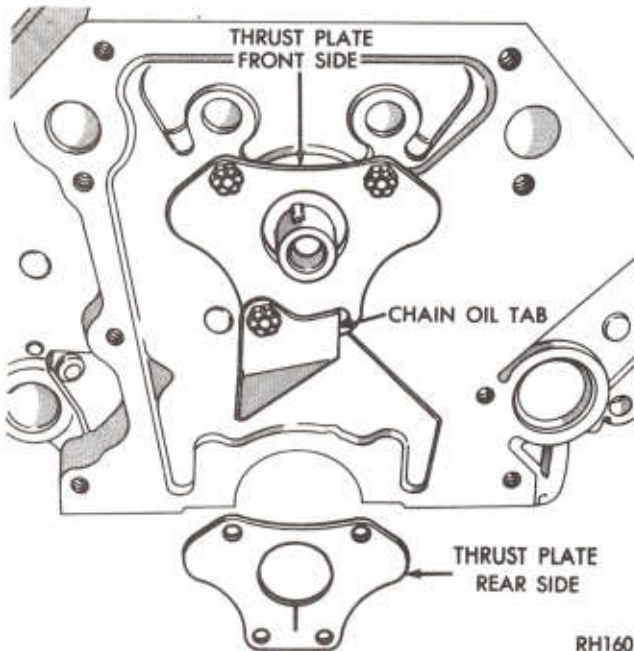
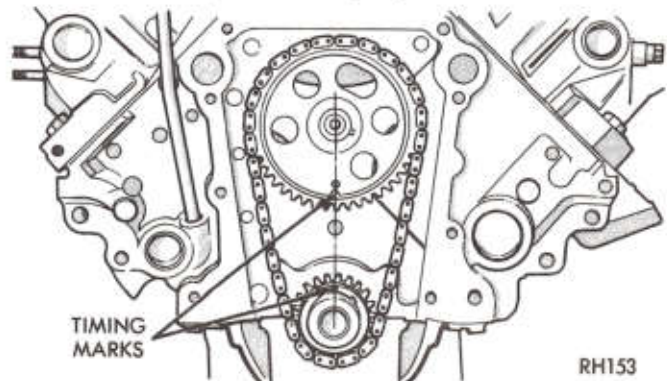

Fig. 32—Timing Chain Oil Tab Installation
Fig. 33—Alignment of Timing Marks
- (1) Remove rocker arm and shaft assemblies.
- (2) Remove push rods and tappets; identify so each part will be replaced in its original location.
- (3) Remove distributor and lift out the oil pump and distributor drive shaft.
- (4) Remove camshaft thrust plate, **note location of oil tab (Fig. 32).**
- (5) Install a long bolt into front of camshaft to facilitate removal of the camshaft; remove camshaft, being careful not to damage cam bearings with the cam lobes.
(3) Hold tool in position with a distributor lock plate screw. This tool will restrict camshaft from being pushed in too far and prevent knocking out the welch plug in rear of cylinder block. **Tool should remain installed until the camshaft and crankshaft sprockets and timing chain have been installed.**
(4) Install camshaft thrust plate and chain oil tab, with three screws as shown in (Fig. 32). **Make sure tang enters lower right hole in thrust plate. Tighten to 210 in. lb. (24 N-m). Top edge of tab should be flat against thrust plate in order to catch oil for chain lubrication.**
(5) Place both camshaft sprocket and crankshaft sprocket on the bench with timing marks on exact imaginary center line through both camshaft and crankshaft bores.
(6) Place timing chain around both sprockets.
(7) Turn crankshaft and camshaft to line up with keyway location in crankshaft sprocket and in camshaft sprocket.
(8) Lift sprockets and chain (keep sprockets tight against the chain in position as described).
(9) Slide both sprockets evenly over their respective shafts and use a straight edge to check alignment of timing marks (Fig. 33).
(10) Install the fuel pump eccentric, cup washer, and camshaft bolt. Tighten bolt to 35 ft. lb. (47 N-m).
(11) Measure camshaft end play. Refer to Specifications for proper clearance. If not within limits install a new thrust plate.
(12) Each tappet reused must be installed in the same position from which it was removed. Tappets must have a definite crown. **When camshaft is replaced, all of the tappets must be replaced.**